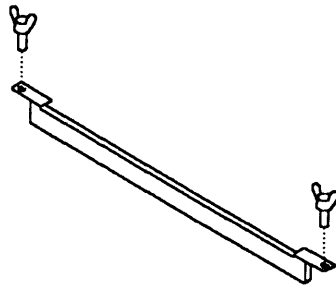

Figure 1-8. Cable-Retaining Bar
- Step 12. ____ At the rear of the machine, remove the two wing screws securing the cable-retaining bar to the base (see Figure 1-8 on page 1-9), and lift out the cable-retaining bar.